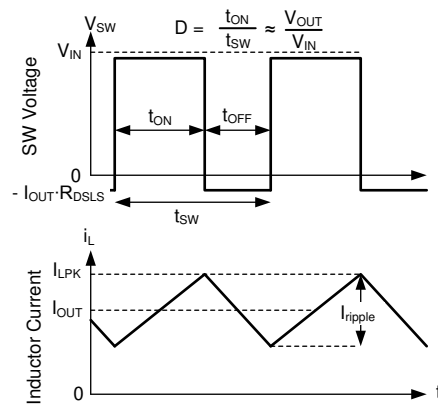

图 8-16. SW Voltage and Inductor Current Waveforms in Continuous Conduction Mode (CCM)
The following operating description of the LM61460 refers to 节 8.2 and to the waveforms in 图 8-16. In CCM, the LM61460 supplies a regulated output voltage by turning on the internal high-side (HS) and low-side (LS) NMOS switches with varying duty cycle (D). During the HS switch on-time, the SW pin voltage, V_{SW} , swings up to approximately V_{IN} , and the inductor current, i_L , increases with a linear slope. The HS switch is turned off by the control logic. During the HS switch off time, t_{OFF} , the LS switch is turned on. Inductor current discharges through the LS switch, which forces the V_{SW} to swing below ground by the voltage drop across the LS switch. The converter loop adjusts the duty cycle to maintain a constant output voltage. D is defined by the on-time of the HS switch over the switching period: